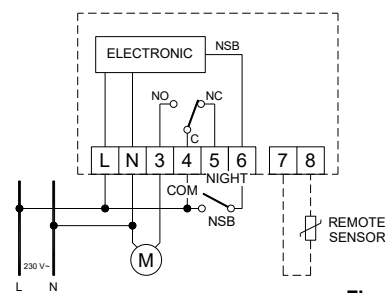
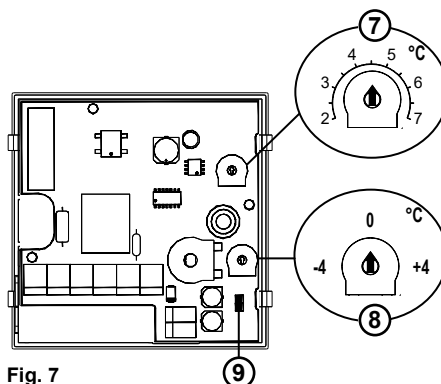

Fig. 5
Fig. 7
6. Make the wiring connections on the backplate as shown in Figure 5, including any floor sensor connections to terminals 7 and 8.
Switch 6 in Figure 5 activates the "night setback" mode. The night set back temperature is adjustable from 2°C to 7°C using the internal trimmer (7), as shown in Figure 7. The trimmer is factory set to 4.5°C.
When using the remote sensor option with the thermostat, connect the sensor as shown in Figure 5 (terminals 7 and 8) and remove the jumper in the lower right corner of the backplate – see (9) in Figure. Do not place power cables and sensor cables in the same conduit.
With the internal trimmer (8, Figure 7), located near the room temperature adjustment trimmer, it is possible to set the offset value for the internal or remote sensor in the range of -4°C to +4°C.